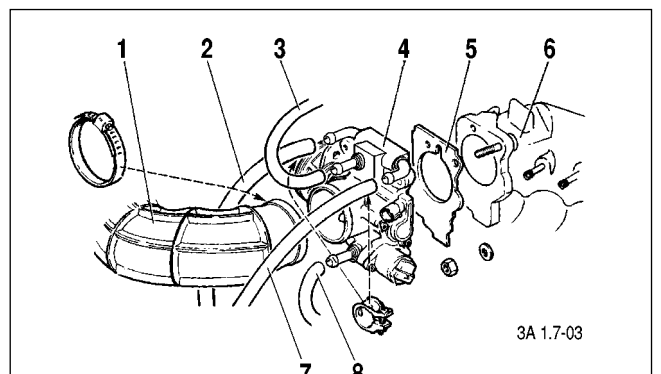

Fig. 1.8-03. Throttle Body Removal:
4. Disconnect the crankcase ventilation hose (3) and the EVAP canister purge hose (8) (Fig. 1.8-03).
6. Disconnect the air intake pipe (1).